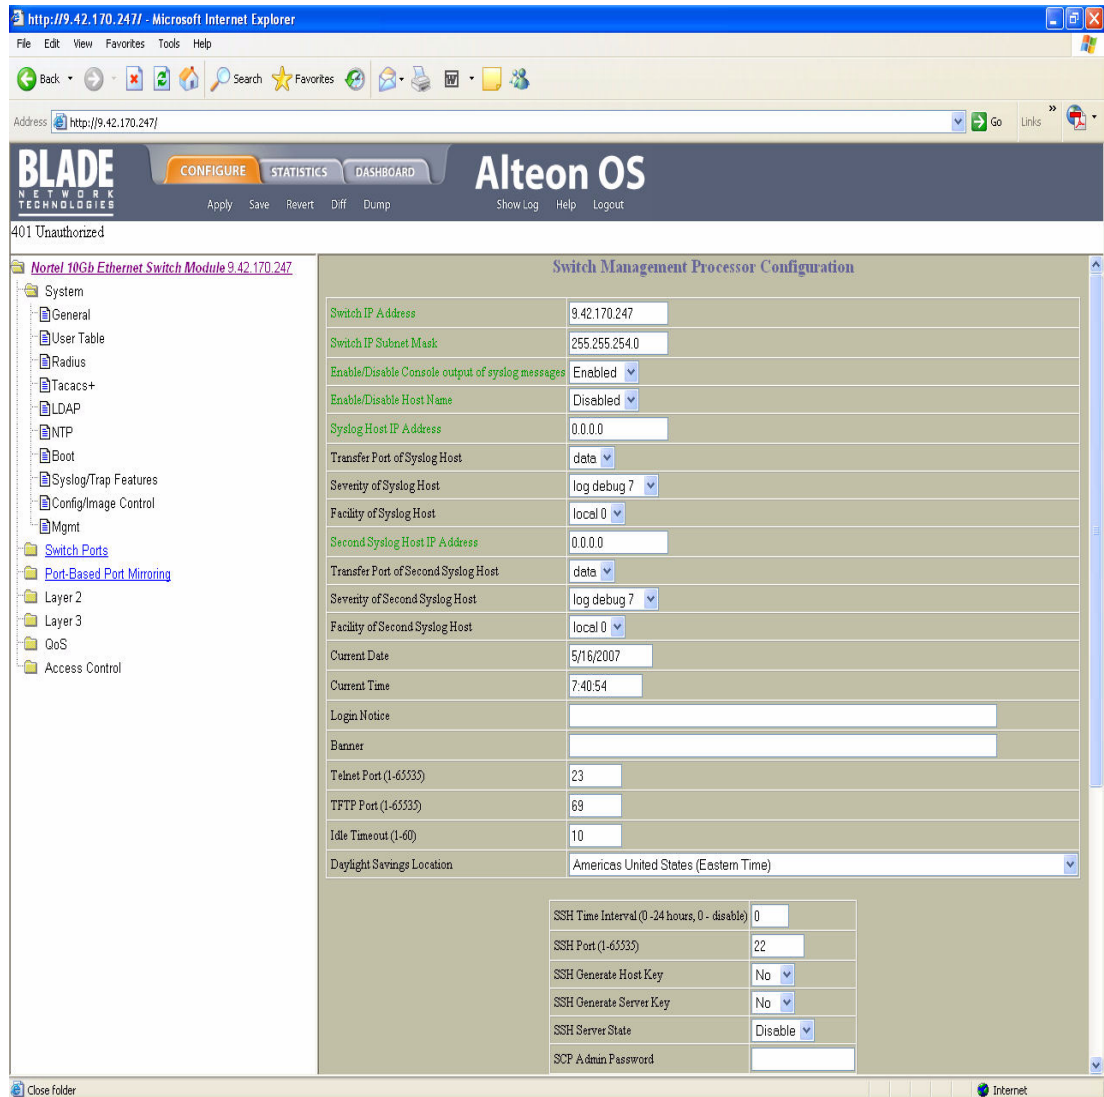

Figure 3-8 Switch information using BBI
4. Click the icon next to General in the list under System. On a window similar to Figure 3-8 on page 47, you see options, such as IP Address and Network Mask fields, that can be configured on this page. Other options on this page include date and time settings, syslog settings (if you have a syslog server), and SNMP settings.